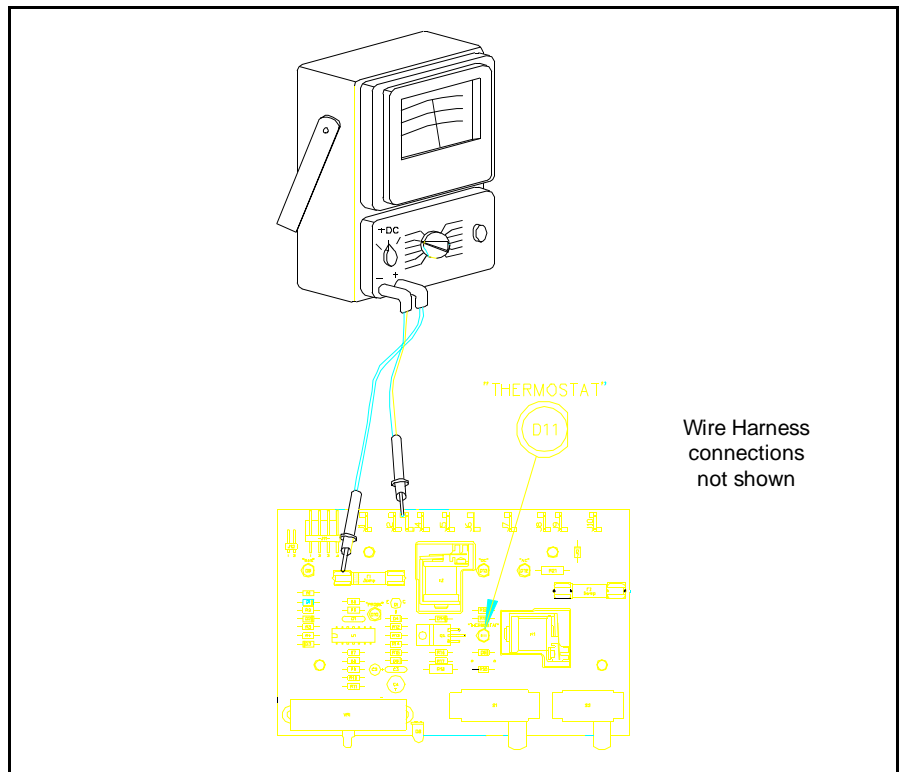

Figure 4.46 3 Amp Fuse Check
9. Check the 3 amp fuse located in Figure 4.46. You must read 12 Volt DC at both ends of the fuse and ground. Use J-4 (-) for the ground probe point. If the fuse is blown, replace it.
10. The Thermostat L.E.D., referenced in Figure 4.46, should now be on. If the refrigerator is calling for cooling and the Thermostat L.E.D. is not on, replace the PC board.